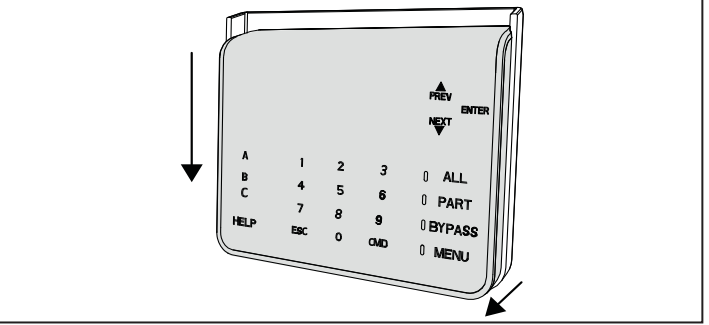

Figure 2.2: Removing the keypad from base
2. Hold the keypad by the base in one hand. With the other hand, gently push down on the keypad to remove it from the base. Refer to *Figure 2.2*.